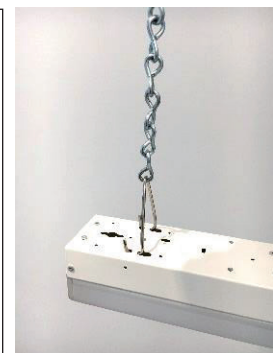

Figure 5
3. Attach V-hanger to the appropriate holes in the back of the fixture (Figure 5).